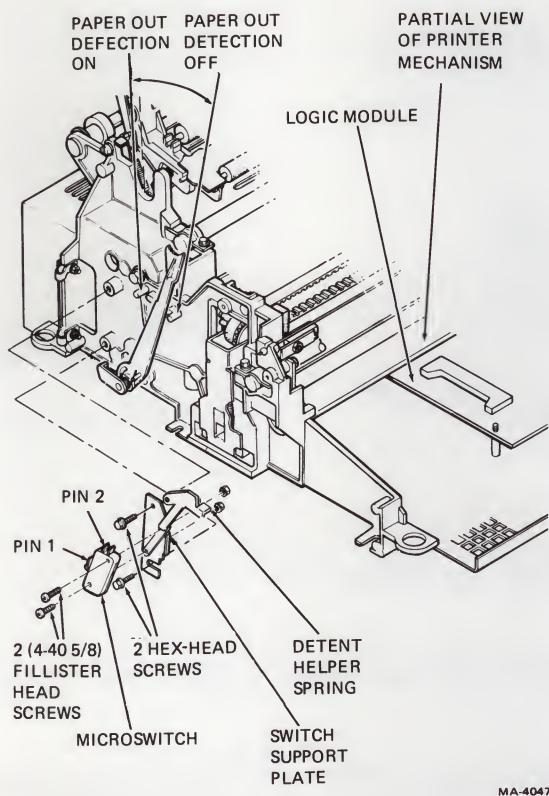

Figure 8-13 Installing the Paper Out Detection Switch
11. Secure the microswitch and detent helper spring to the switch support plate using two 4-40 \times 5/8 fillister screws and two 4-40 kep nuts (Figure 8-13).
12. Using a 1/4 inch open end wrench, remove the top switch support plate hex-head screw and loosen the bottom switch support plate hex-head screw (Figure 8-13).